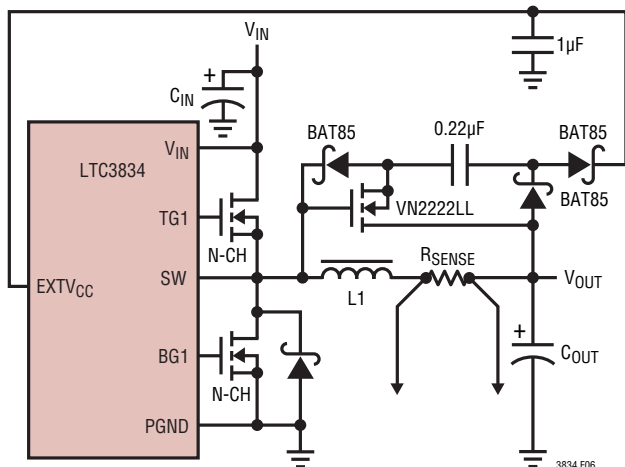

Figure 6. Capacitive Charge Pump for EXTVCC
The optional Schottky diode D1 shown in Figure 6 conducts during the dead-time between the conduction of the two power MOSFETs. This prevents the body diode of the bottom MOSFET from turning on, storing charge during the dead-time and requiring a reverse recovery period that could cost as much as 3% in efficiency at high  $V_{IN}$ . A 1A to 3A Schottky is generally a good compromise for both regions of operation due to the relatively small average current. Larger diodes result in additional transition losses due to their larger junction capacitance.
4. EXTVCC Connected to an Output-Derived Boost Network. For 3.3V and other low voltage regulators, efficiency gains can still be realized by connecting EXTVCC to an output-derived voltage that has been boosted to greater than 4.7V. This can be done with the capacitive charge pump shown in Figure 6.